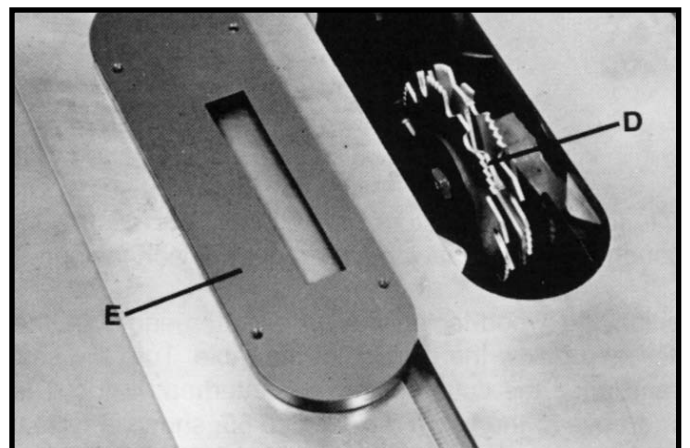

Fig. 139
2. Attach the dado head set (D) Fig. 139, to the saw arbor. **IMPORTANT:** The blade guard and splitter assembly cannot be used when dadoing and must be removed or swung to the rear of the saw as explained previously in this manual. Auxiliary jigs, fixtures, push sticks, and feather boards should also be used. Also, the accessory dado head table insert (E) Fig. 139, must be used in place of the standard table insert.